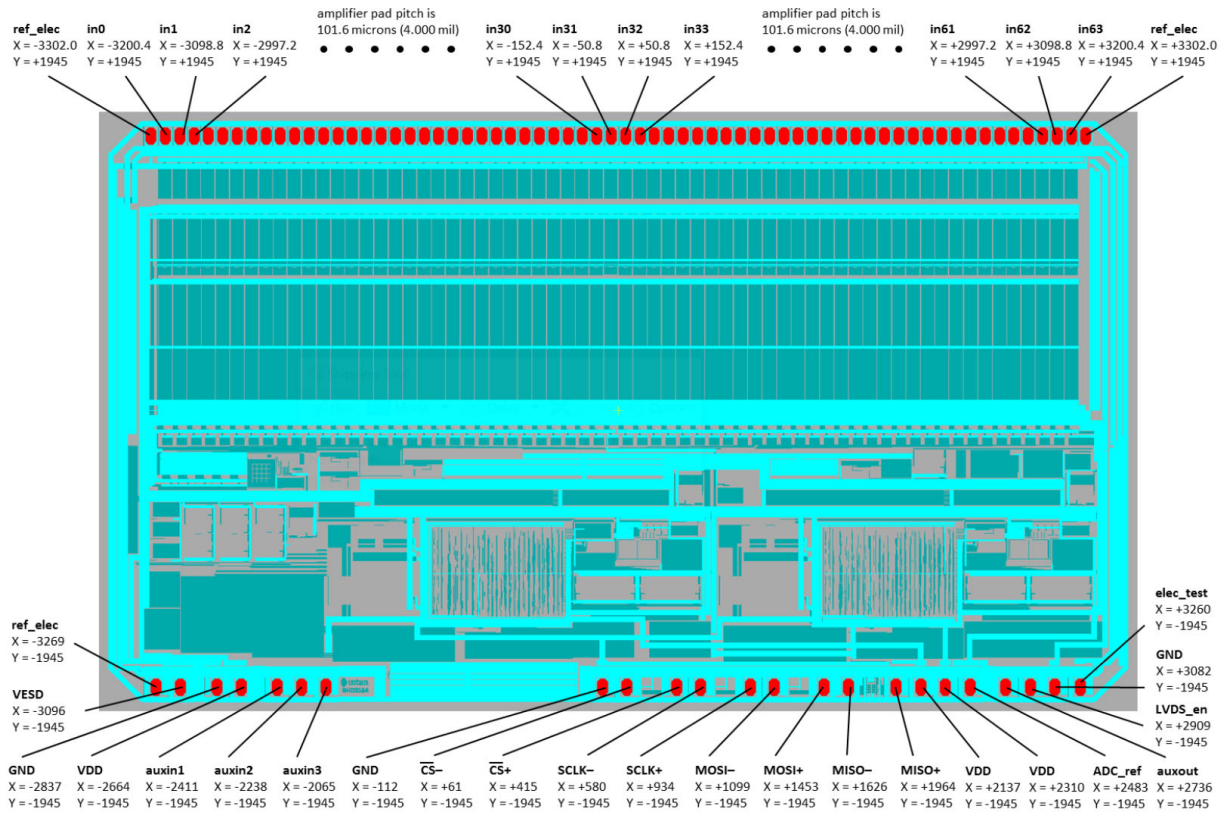

Figure 1: Layout of the Intan RHD2164. Reproduced from [3].
- a. The bond pad layout on the pMEA should mirror that of the Intan RHD2164 (Figure 1). Refer to the spec sheet for details on the layout.